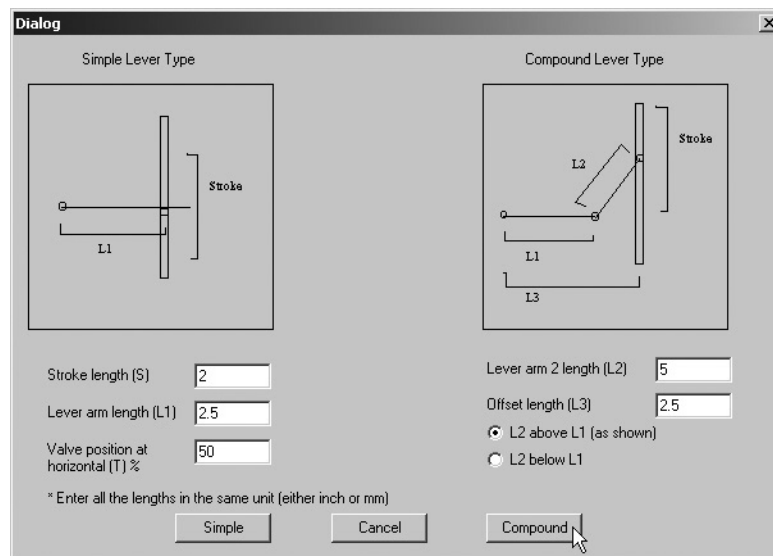

Figure 85 Selecting Lever Type
2. Enter all lever parameters, click on the lever type (Compound lever in Figure 85).